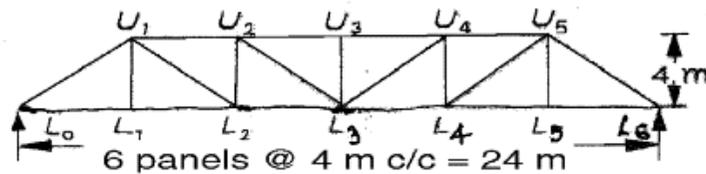

Fig. 4.1 UPTUonline.com
- b) An open web girder bridge consists of two pratt trusses of the type shown in the Fig. 4.1. The span of the truss is 24 M c/c of bearings. The bridge supports an equivalent uniformly distributed live load of 200 kN per meter run. The dead load transmitted to each truss inclusive of self-weight is 17 kN/m. Design the members U₂L₃ and U₅L₄. Assume the impact factor to be 15%.